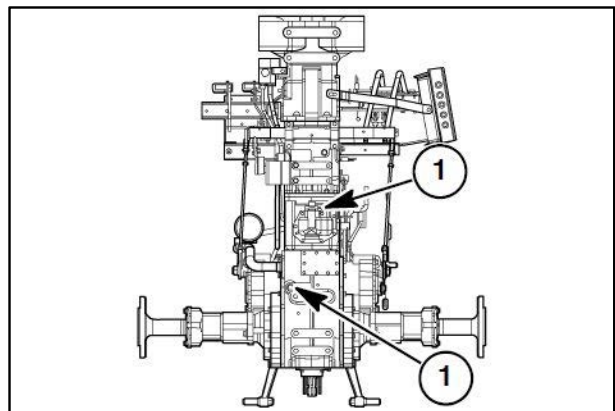

Figure 3-19
1. Place a suitable container beneath the transmission drain plugs (1) in Figure 3-19, to catch the used oil. With the oil at normal operating temperature, drain the system by removing the transmission and rear axle drain plugs. Reinstall the drain plugs after all of the oil has drained out. Discard the used oil properly.